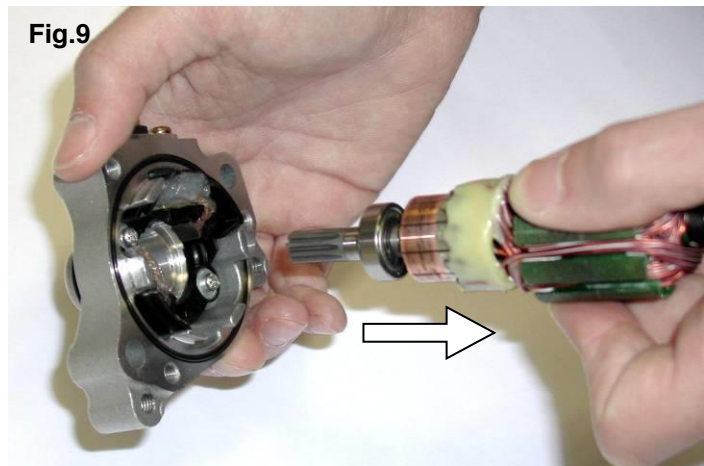

Fig.9
- EXTRACT THE ROTOR FROM THE STARTER MOTOR HEAD (see Fig. 9)